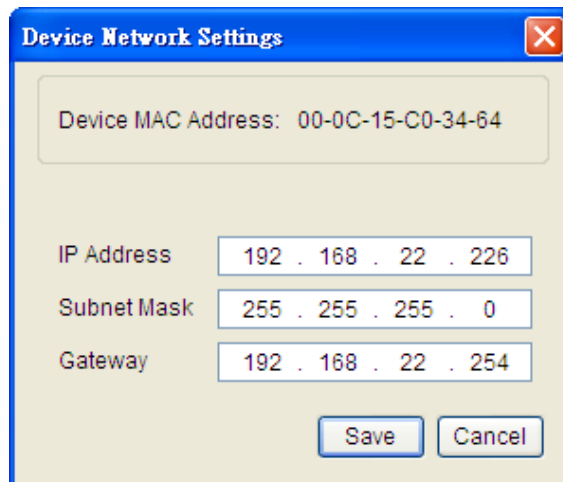

Figure 2. The network card setting window.
5. You can modify the IP Address, Subnet Mask, and Gateway address for the Device MAC Address listed in the Device Network Settings window, as shown in Figure 2.